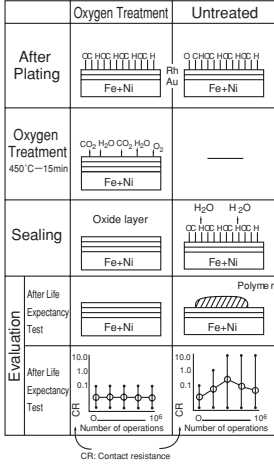

Figure 2.1
- (1) Cutting and bending positions must be determined with reference to the center of the contact or to the end of the lead. If the position is measured from the end of the glass tube, the contact center position may move.
- (2) When cutting or bending the leads, be sure to protect the sealing portions. As shown in Figure 2.1, the lead should be firmly secured by a jig.
- (3) After the process, confirm that there is no crack or chipping in the glass tube.